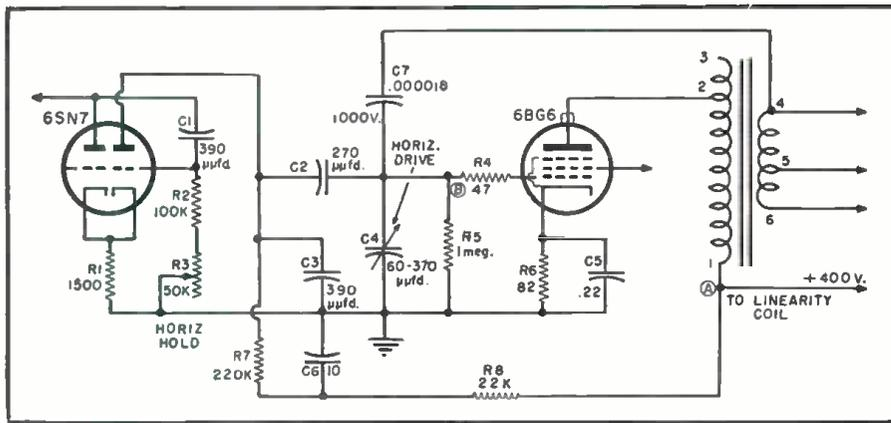

Fig. 2. Wiring diagram of a conventional phase detector drive circuit.
- Remove all connections to the vertical sweep section from point A in Figs. 2, 4, and 5, and return them to the highest "B plus" point instead.